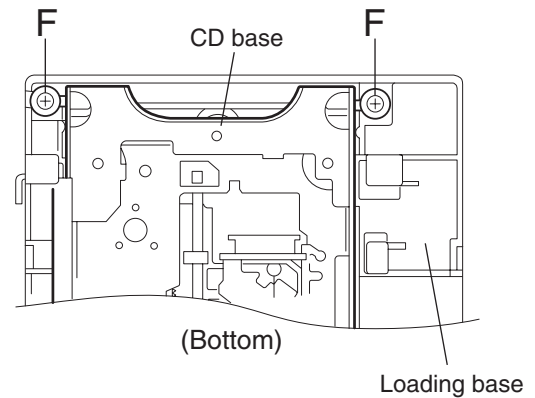

Fig.10
■ Removing the C.D. gear (1), (2) and (3) (See Fig.10 ~ 13)